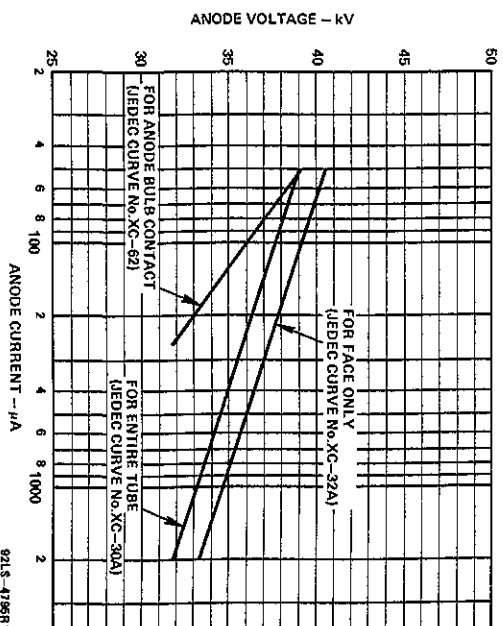
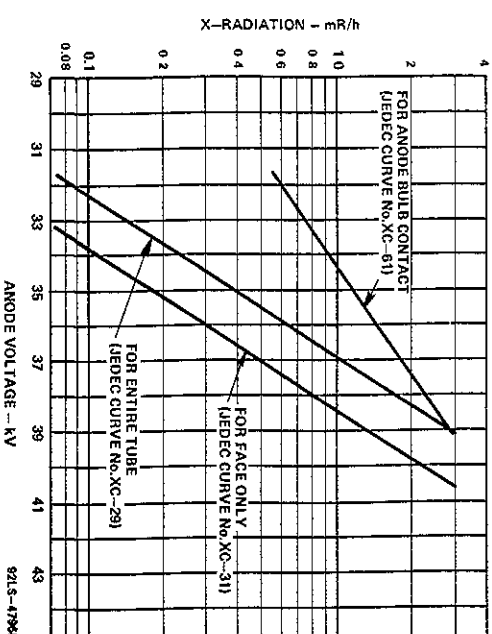

Figure 3 — 0.5 mR/h Isoexposure — Rate Limit Curves
Figure 4 — X-Radiation Limit Curves at a Constant Anode Current of 300 μ A (X-radiation at a constant anode voltage varies linearly with anode current)
The X-radiation emitted from this picture tube will not exceed 0.5 mR/h for anode voltage and current combinations given by the isoexposure-rate limit curves as shown in Figure 3. Operation above the values shown by the curves may result in failure of the television receiver to comply with the Federal Performance Standard for Television Receivers, Part 1020 of Title 21, Code of Federal Regulations, Subchapter J. Maximum X-radiation as a function of anode voltage at 300 μ A anode current is shown by the curves in Figure 4. X-radiation at a constant anode voltage varies linearly with anode current.
*This rating applies only if the anode connector used by the set manufacturer provides the necessary attenuation to reduce the X-radiation from the anode contact by a factor equivalent to the difference between the anode button isoexposure-rate limit curve (Figure 3) and the isoexposure-rate limit curve for the entire tube.
Operation of this color picture tube at abnormal conditions which exceed the 0.5 mR/h isoexposure-rate curve shown in Figure 3 may produce soft X-rays which may constitute a health hazard on prolonged exposure at close range unless adequate external shielding is provided. Therefore, precautions must be exercised during servicing of TV receivers employing this tube to assure that the anode voltage and other tube voltages are adjusted to the recommended values so that the Absolute-Maximum Ratings will not be exceeded.